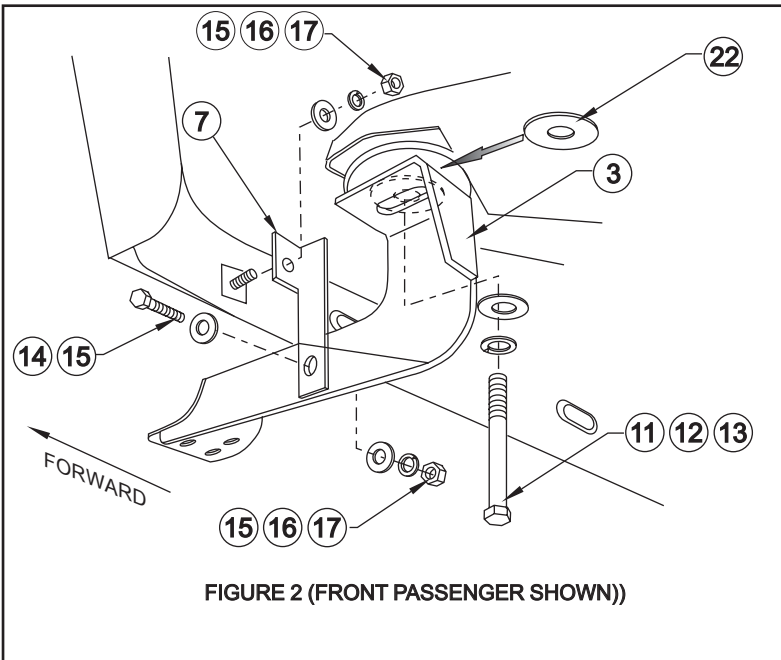

FIGURE 2 (FRONT PASSENGER SHOWN)
- STEP 4. Install front and rear brackets as shown. Hand tighten. **SEE FIGURES 2 AND 3.**
- STEP 5. Install front and rear support braces as shown. Hand tighten. **SEE FIGURES 2 AND 3.**